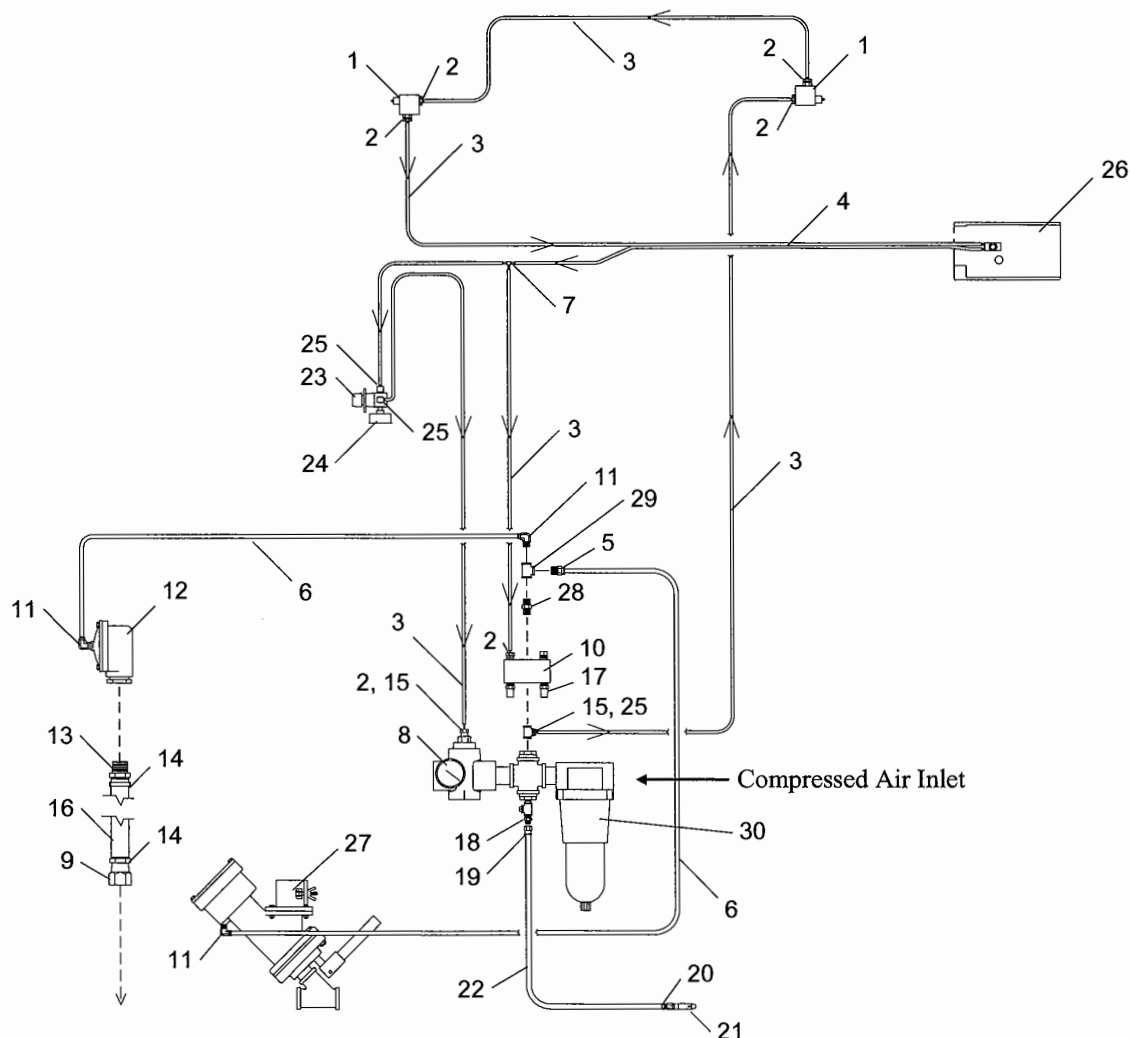

Figure 24
9.6 Plumbing Assembly, Figure 24